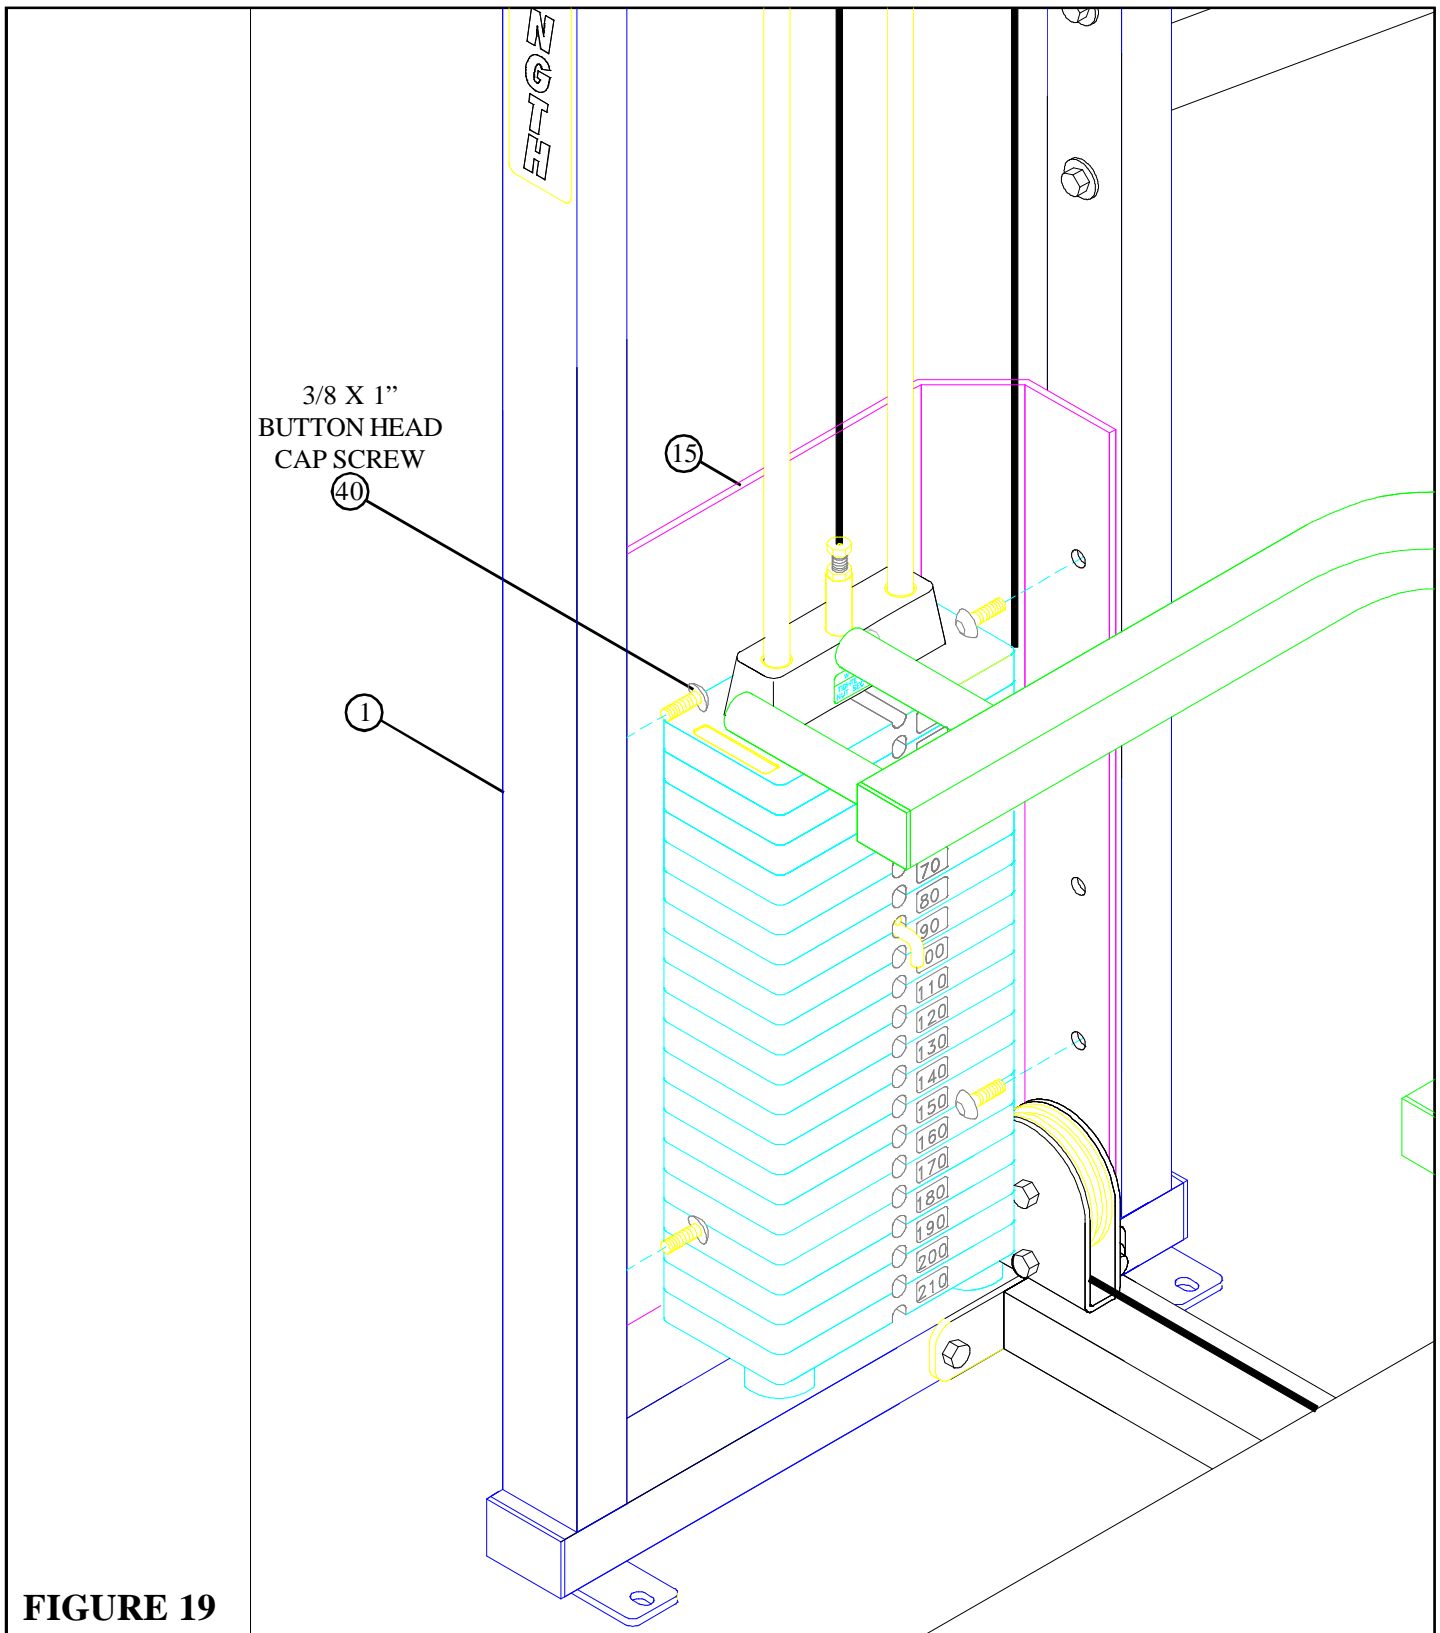

FIGURE 19
- **SECURELY** assemble the SHROUD (15) to the TOWER (1) using four 3/8 X 1" BUTTON HEAD CAP SCREWS (40) as shown in FIGURE 19.